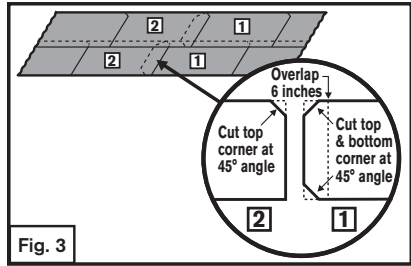

Fig. 3
Step 8. If additional pieces are needed to complete the starter course, the end lap to be overlapped must be cut at 45° angles on the top and bottom corners. See Fig. 3
The top corner on the piece that is overlapping the previous piece must also be cut on the top corner at a 45° angle. See Fig. 3